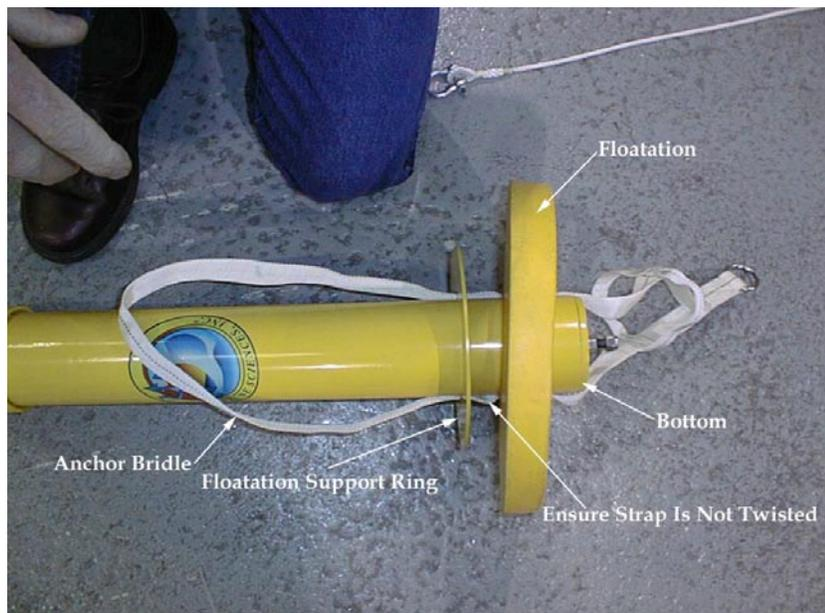
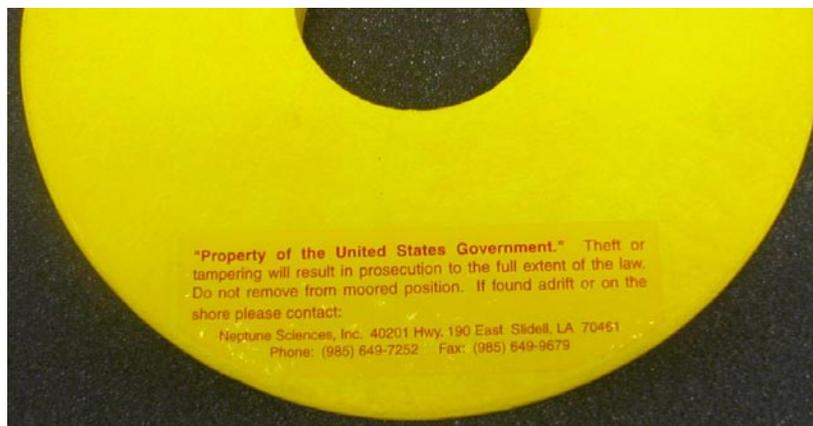

Figure 6
Figure 7
E. Slide floatation over straps and onto buoy bottom. Ensure straps are not twisted (Fig. 6) and that the printed “Government Property” decal faces upward (Fig. 7)